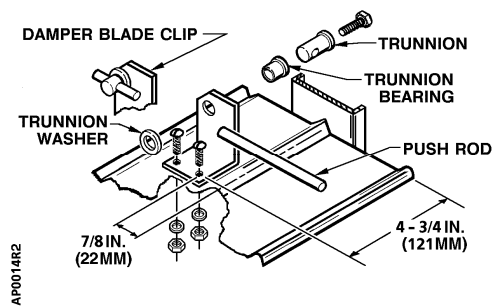

Figure 4. Damper Blade Clip.
See Figure 4 and
2. Have the damper manufacturer drill the holes in the damper blade for the blade clips (Figure 4). Use the same clip location for both normally open and normally closed dampers. Attach the damper blade clip to the damper blade (Figure 4). Put the damper in its normal position, open or closed. Connect the push rod to the trunnion in the blade clip and tighten the setscrew. Connect the other end of the push rod to the crank on the drive shaft and tighten the trunnion setscrew on the push rod. Position the crank so the push rod is parallel to the bracket, then tighten the crank setscrews.